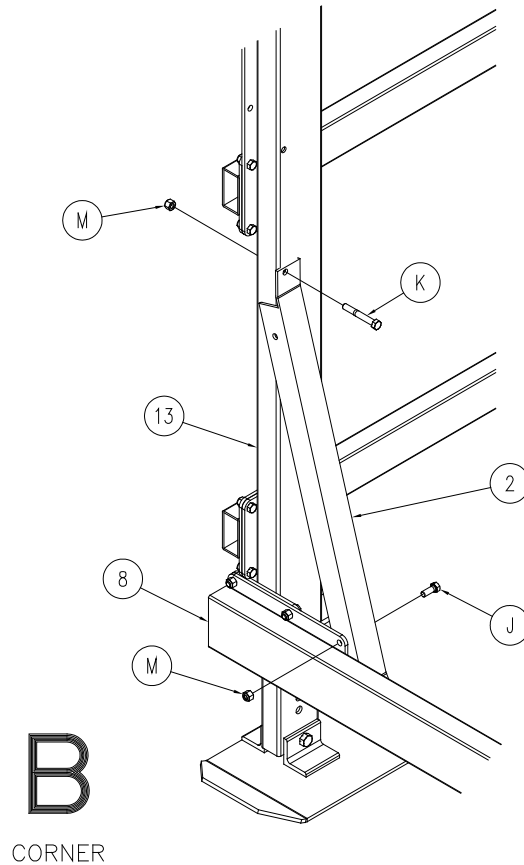

Figure 3-7.
1. Position a lower diagonal brace on the inside of vertical leg "B" as shown in Figure 3-7. Loosely fasten with hardware shown.